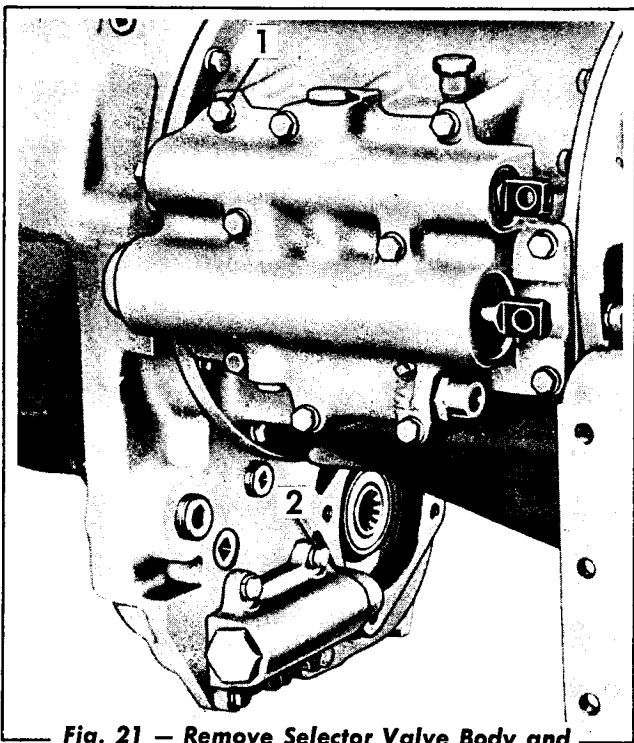

Fig. 21 — Remove Selector Valve Body and Main Pressure Regulator Valve Body
4. Remove the capscrews and lockwashers (Fig. 21) from the selector valve body and remove the valve and gasket. Remove the main pressure regulator valve body and gasket.